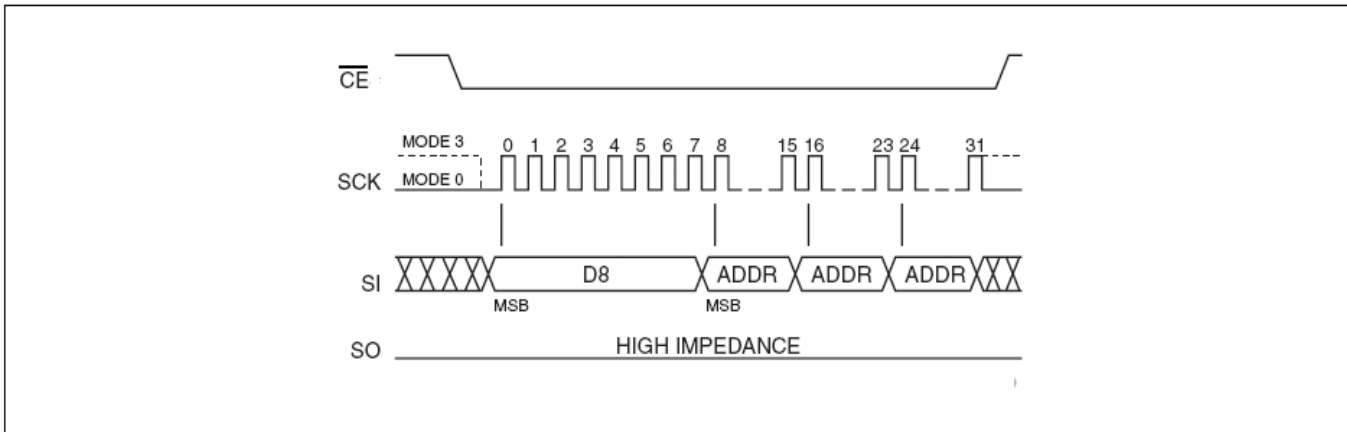

Figure 13: 64K-byte Block Erase Sequence
-A0]. Address bits [AMS-A16] (AMS = Most Significant address) are used to determine the block address (BAx), remaining address bits can be VIL or VIH.  $\overline{CE}$  must be driven high before the instruction is executed. The user may poll the Busy bit in the Software Status Register or wait TBE for the completion of the internal self-timed Block Erase cycle. See Figure 13 for the Block Erase sequence.